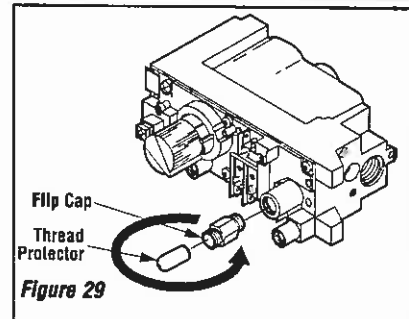

Figure 29
a. Convert the gas valve as follows (see *Figure 29* and the instructions provided with the kit):